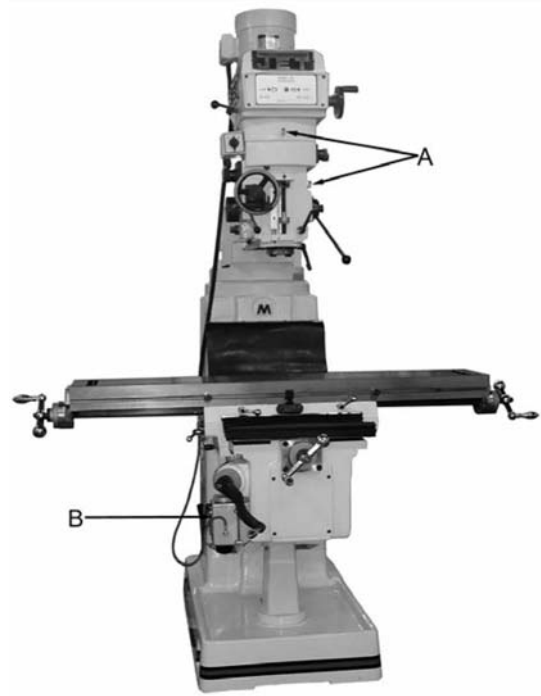

Figure 2
- 3. Turn the hex head of the worm shaft (B, Fig. 2) using a 19mm socket and breaker bar. Raise the head aligning the zero marks on the scales. With the help of another person support the head while it is raising.
1. Spindle Bearings & Quill (A, Fig. 2)- fill oil cups once daily with Mobil DTE® Oil Light.
2. Oil Pump (B, Fig. 2)- fill reservoir as needed by removing cap on top of tank and filling with Mobil DTE® Oil Light. Pump oil with release handle daily. Way surfaces and leadscrews are lubricated in this manner.